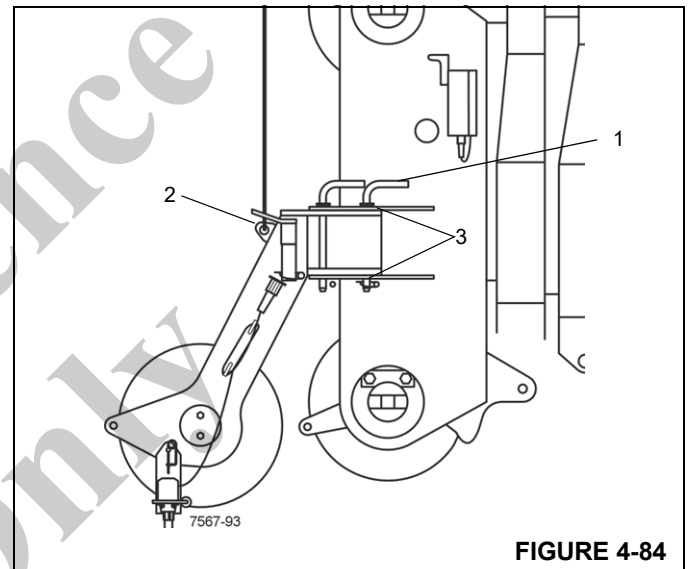

FIGURE 4-84
1. Remove the pivot pin (1) (Figure 4-84) from the boom nose.
2. Attach a sling to the lifting lug (2) on the boom nose.
4. Align the boom nose with the mounting lugs (3) on the boom head and install the swivel pin (1), secure the pin with a retaining clip.
1. Attach a sling to the lifting lug (2) (Figure 4-84) on the boom nose.